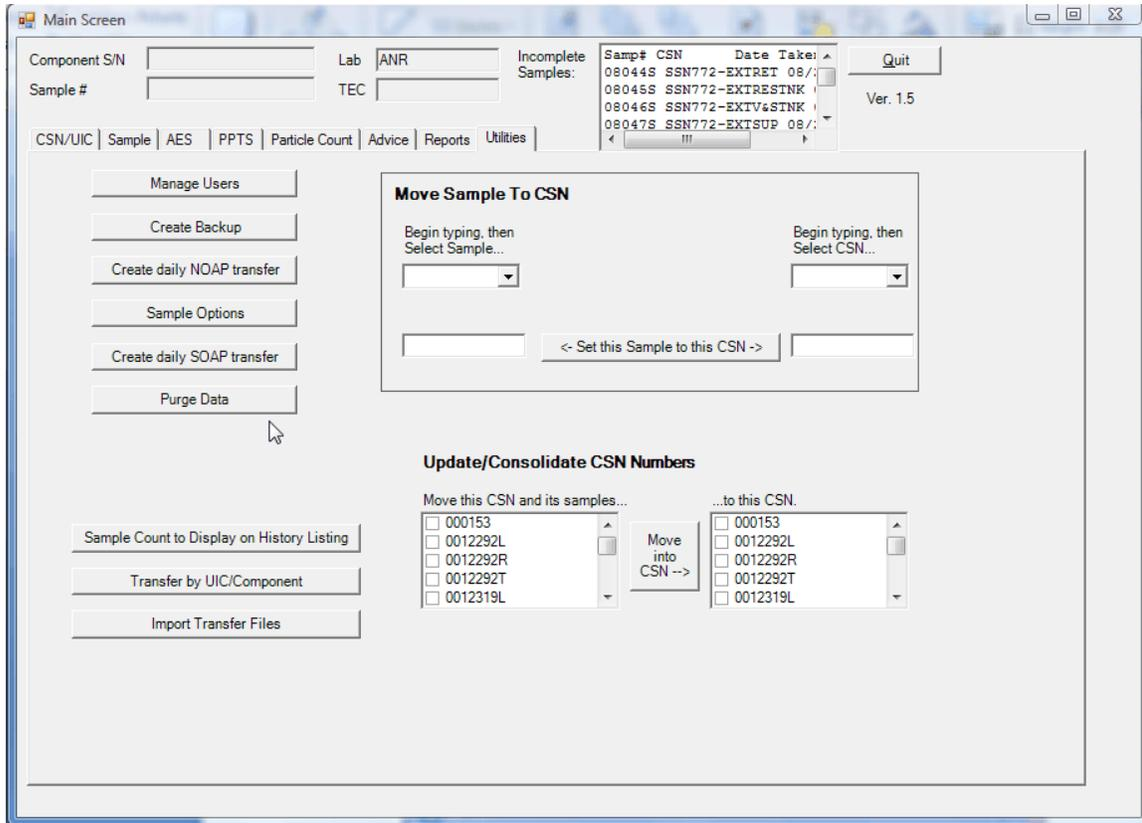

Figure 108. Utilities Tab
- g. Update/consolidate CSN numbers. From the main sample screen press the Utilities tab and the following screen will appear (Figure 108). Update/consolidate CSN numbers takes all the samples entered under the wrong CSN and moves it to the correct CSN. Update/consolidate CSN numbers takes all of the samples associated with a CSN and moves them to another existing CSN. An example of why this would be used is a transfer disk brought CSN A232521653 into your system. You have that CSN but under the correct CSN of A232-52-1653. Update/consolidate CSN numbers would merge the A232521653 samples under A232-52-1653 with the correct CSN. If the TEC's are different the TEC needs to be changed to the accepting TEC.